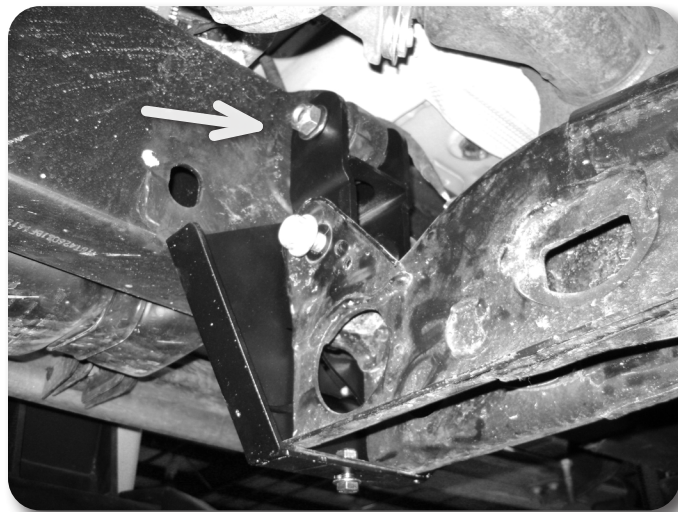

Figure 51
75. Install the modified torsion bar cross member to the original frame mounts. Be sure it is oriented properly (larger torsion bar holes to the front). Fasten to the factory frame mounts with 9/16" x 4" bolts, nuts and washers. Figure 51 Torque bolts to 90 ft-lbs.